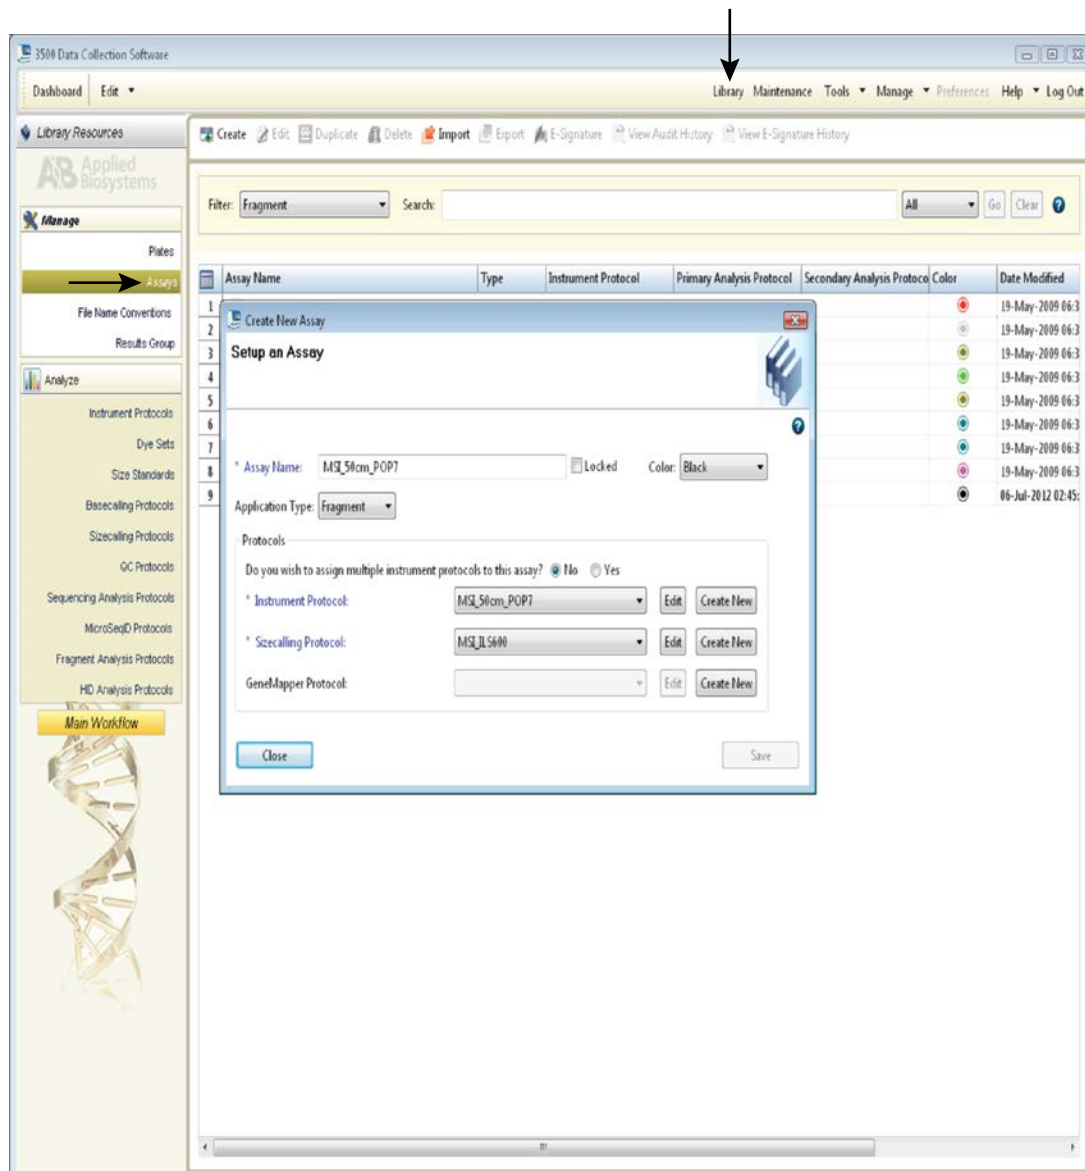

Figure 8. The Assay window.
5. To create a new Assay, navigate to the Library. Select “Assays”, then select “Create”. In the Assay window (Figure 8), select the application type “Fragment” and the appropriate Instrument Protocol and Sizecalling Protocol. Assign a descriptive assay name, then select “Save” and “Close”.